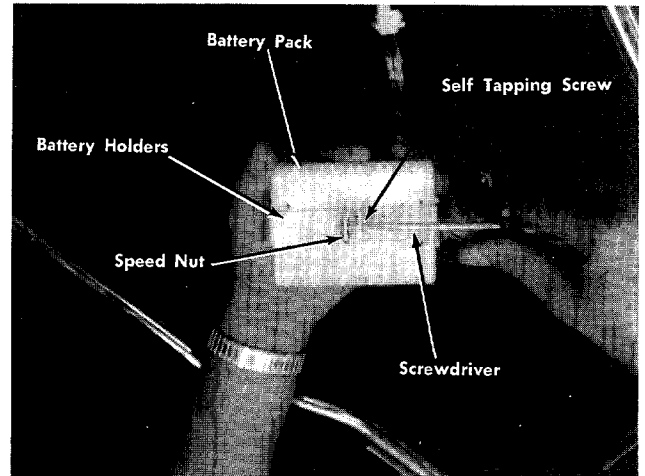

FIGURE 10. ASSEMBLY OF BATTERY HOLDERS
3. Place both battery holders around battery pack. See figure 10.
4. Secure battery holders to battery pack with a hex slotted self tapping screw. See figure 10.